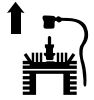

Figure 5-3: Remove drain plug to drain transmission gear oil (also remove oil fill plug and oil level check plug).
3. Place a clean pan below the transmission drain plug (see Figure 5-3) and remove the drain plug. The oil will start flowing out of the drain hole (it may flow slowly, especially in cold temperatures).